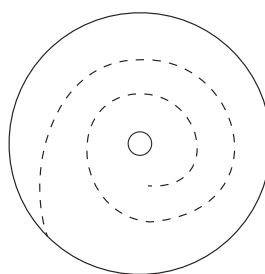

Figure 6.
- Another version of the spinning diver can be done with the design in Figures 6 and 7.